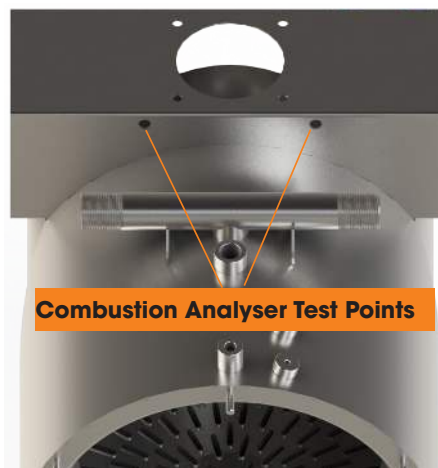

Fig. 21
Step 7 - Now the boiler is firing, locate the combustion analyser test points and carry out a smoke and combustion test with the aid of a smoke pump and combustion flue gas analyser to ensure the combustion levels are suitable. **Fig. 21**